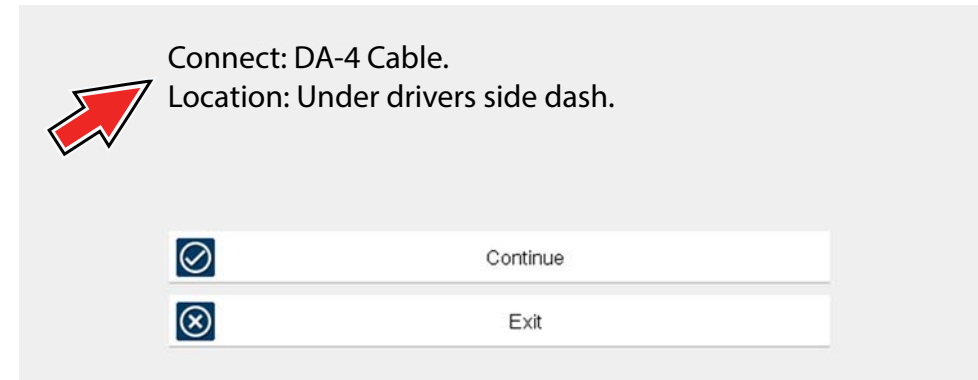

Figure 4-2 Vehicle data cable connection information
2. After identifying the vehicle using the Scanner or OBD-II/EOBD function (see Vehicle Identification on page 28) review any on-screen information that may be provided for data cable connection, usage and DLC location (Figure 4-2).